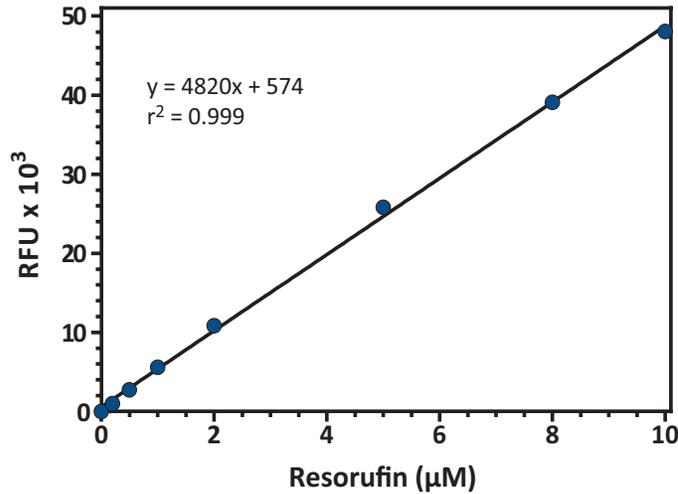

Figure 3. Resorufin Standard Curve
- Plot the corrected fluorescence values (from step 1 above) of each standard as a function of the final concentration of resorufin from Table 1. See Figure 3, on page 16, for a typical standard curve.